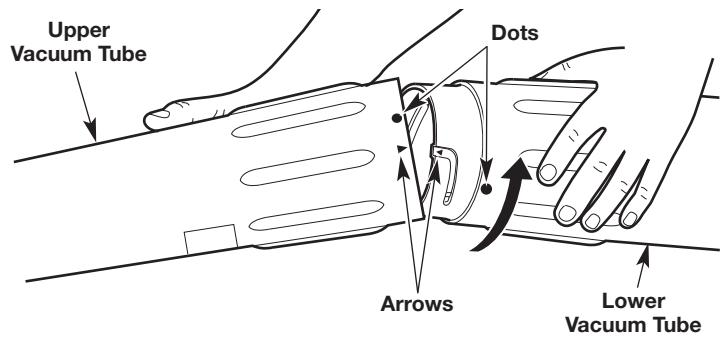

Fig. 7
2. Align the arrow on the lower vacuum tube with the arrow on the upper vacuum tube (Fig. 7).
3. Insert the lower vacuum tube into the upper vacuum tube (Fig. 7).
4. Twist the lower vacuum tube clockwise with both hands until it locks into place (Fig. 7).
**NOTE:** When properly assembled, the dot on the lower vacuum tube should align with the dot on the upper vacuum tube (Fig. 7).